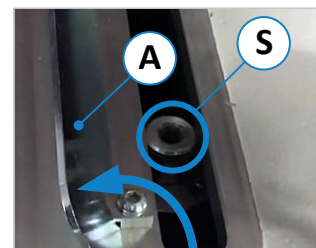

Figure 35: Clamping screws
- **Type 216** → Attach both clamping levers (3) and (6) and tighten to fix the fence in place.
- **Type 204** → Fit the clamping screws (⇨ Figure 35) and tighten both quick-release levers (3) and (6) to fix the fence in place.
- Only loosen (do not remove!) the quick-release levers (3) and (6).
- Fold up the two cover plates (A) to the left and right of the fence (see ⇒ Figure 35).
- Then remove the two clamping screws (S) (unscrew completely).